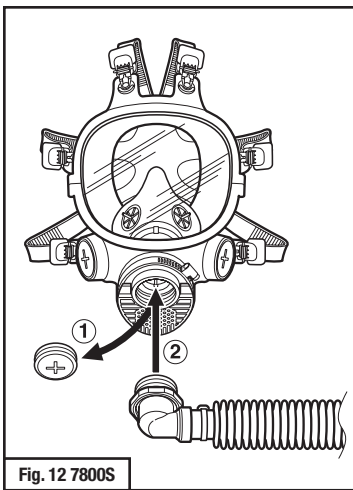

Fig. 12 7800S
2. Remove the 3M™ Gasket Valve Plug 7890 from the **center port** of the full facepiece respirator (Fig. 12 and 13).
4. Screw GVP-123 breathing tube elbow adapter into the center port of the facepiece inlet of the respirator (Fig. 12 and 13).